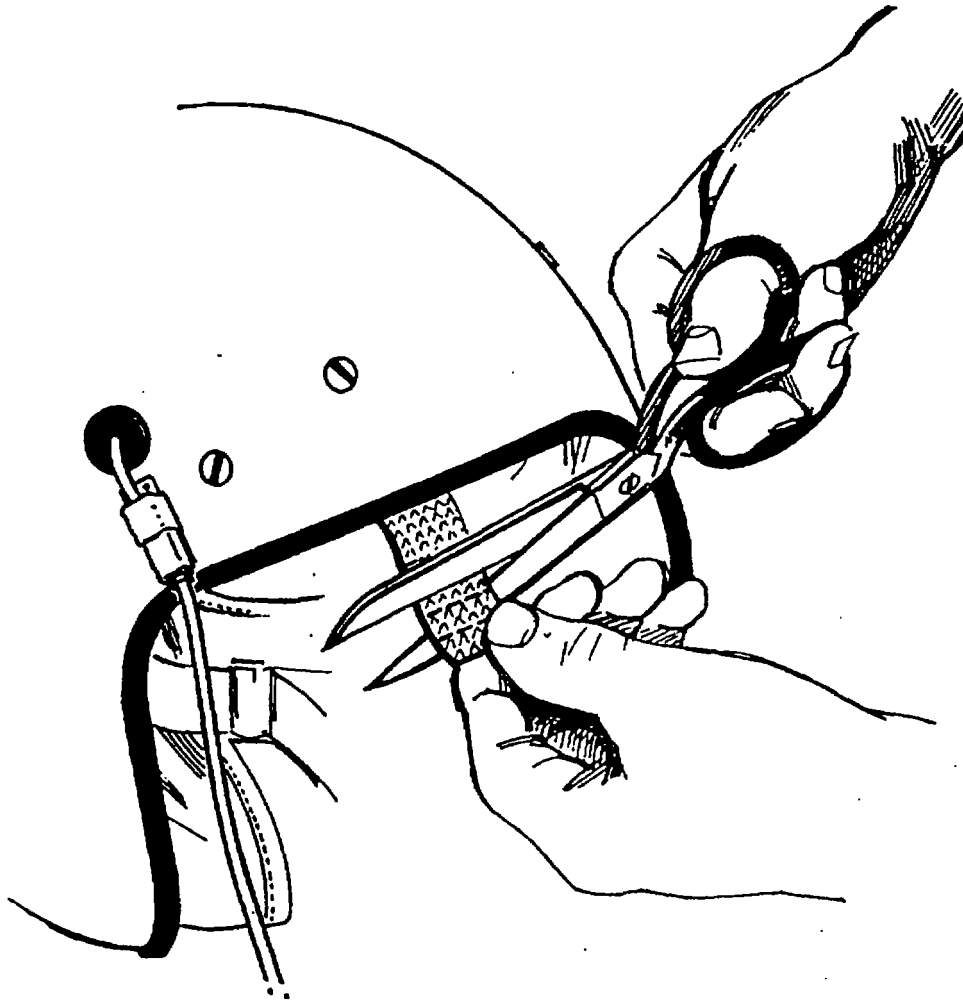

Figure 3-5. Trimming Hanger Tab
6. At nape area, adjust hook-and-pile closure to a snug fit. Tighten adjustment buckle strap as required. Adjust rear hanger tab and trim if required. Figure 3-5 shows how the hanger tab is trimmed.